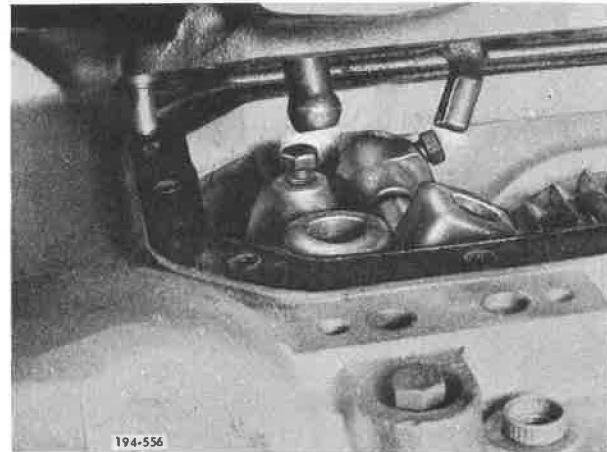

Figure 5-559. Installing Cover
11. Install air shift cover, being careful to be sure shift levers engage shift forks. See Figure 5-559.